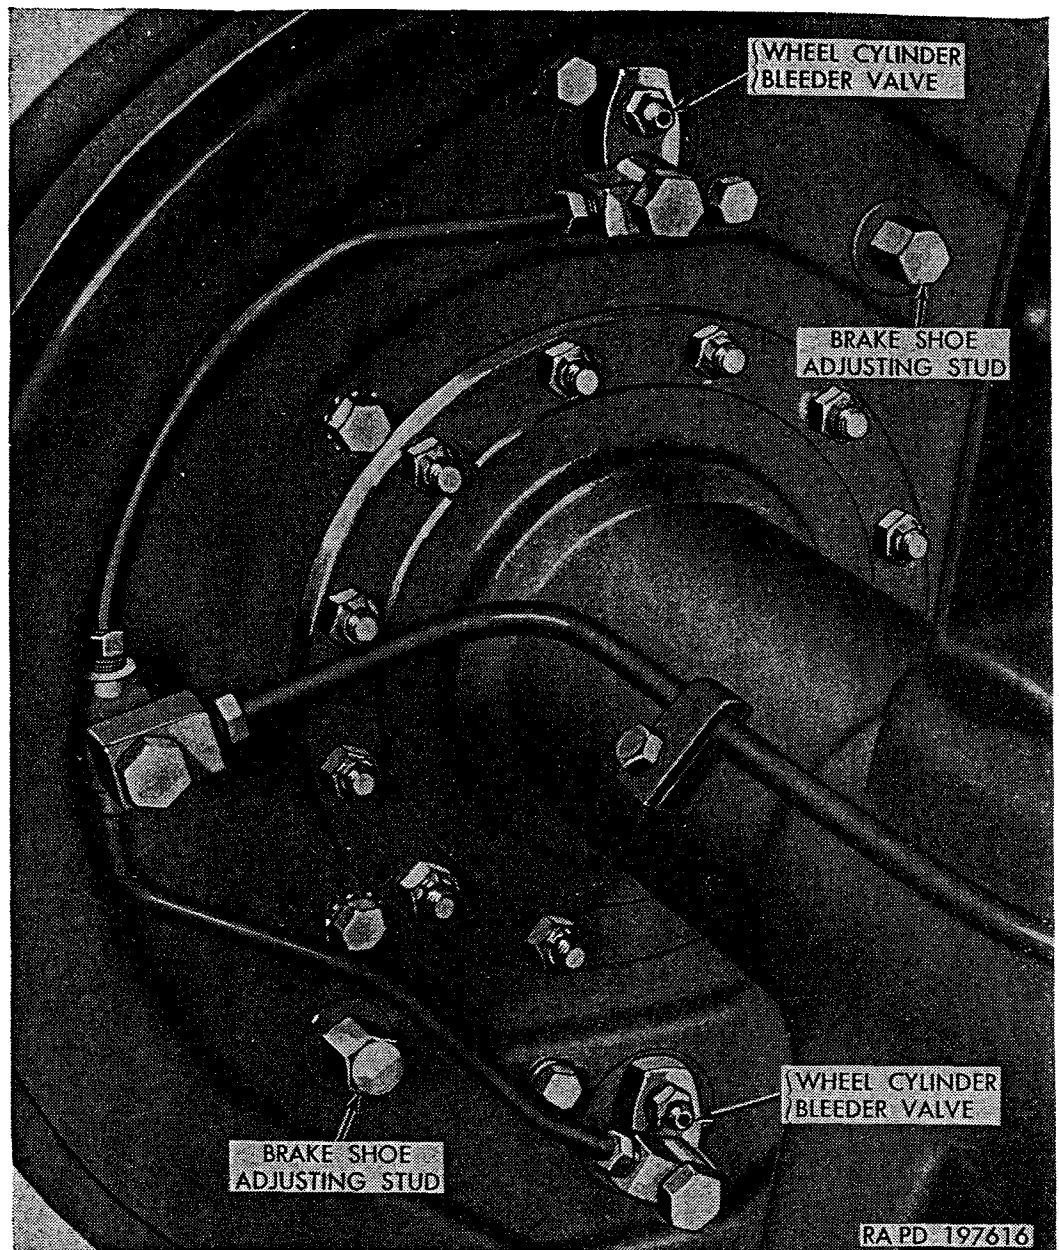
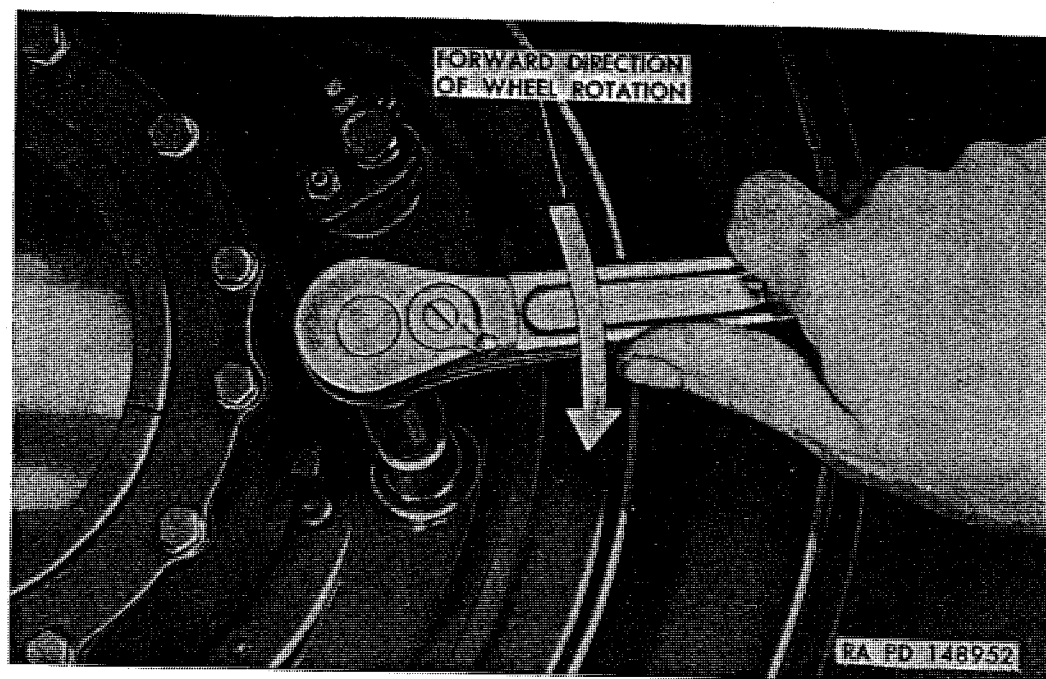

Figure 244. Brake bleeder valves and adjusting studs (rear wheel shown).
Figure 245. Adjusting brake shoes (front shown).
a. General. Master cylinder filler cap is accessible through inspection hole in left side of floor pan after removing inspection hole cover. Air-hydraulic cylinder bleeder valves are accessible from under vehicle and wheel cylinder bleeder valves are accessible at inner side of backing plate at each wheel (fig. 244). Bleeding brake system may be accomplished by one of two methods, pressure or manual. Engine must not be running and all air pressure must be exhausted from the air system before bleeding brakes.
- (1) Clean dirt from around master cylinder cap. Unscrew bolt securing filler cap and vent line fitting to master cylinder filler pipe. Swing vent line and filler cap to one side. Bolt will remain in filler cap and fitting.
- (2) Make sure pressure bleeding tank contains sufficient hydraulic brake fluid and is properly charged with air pressure. Connect pressure tank to master cylinder filler pipe, bleeding all air from hose before tightening the connection.
- (3) Bleed air-hydraulic cylinder first. Slip end of bleeder hose over bleeder valve at top of air-hydraulic cylinder control valve and place other end in a glass jar containing sufficient hydraulic brake fluid to cover end of hose. Open bleeder valve and observe flow of fluid from end of hose. Close bleeder valve as soon as bubbles stop and fluid flows in a solid stream. Repeat this procedure at bleeder valve on top of slave cylinder end fitting.
- (4) Bleed both bleeder valves at each wheel (fig. 244), following same procedure used at air-hydraulic cylinder ((3) above). Make sure each bleeder valve is closed tightly after bleeding.
- (5) Disconnect bleeder tank hose from master cylinder filler pipe. Install filler cap and vent line fitting, tightening attaching bolt to a maximum of 30 pound-feet torque. Install cover plug in inspection hole in floor pan.
a. General. Brake adjustments to compensate for normal lining wear are made at the brake shoes. These adjustments should be made before the brake pedal reserve travel becomes less than 2 inches. Adjustments (fig. 244) are made by turning adjusting pinion studs at inner side of backing plates. Always check wheel bearing adjustment and adjust if necessary (par. 265) before adjusting brakes. Do not adjust brake shoes while brake drums are hot.
- (1) Jack up axle. Make a brake application and release to center brake shoes with brake drums.
- (2) Using a suitable wrench on brake shoe adjusting studs (fig. 245), turn studs in direction of forward rotation of wheel (fig. 245) until a heavy drag is felt as wheel is turned by hand; then turn studs in opposite direction one-half to one-third turn to provide running clearance between brake shoe lining and brake drum.
- (3) After completing adjustment at each wheel, make sure wheel turns freely. Remove jack from under axle.